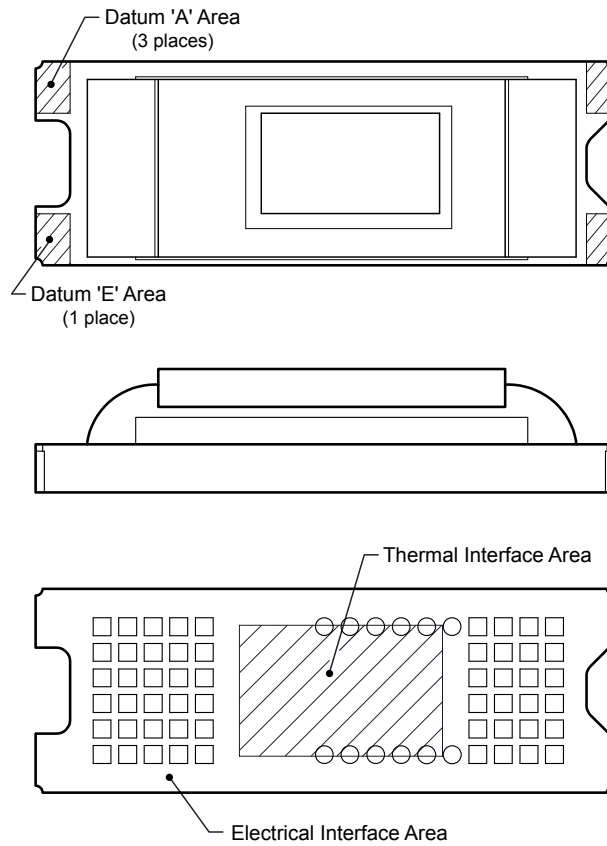

Figure 7-14. System Interface Loads
(1) Uniformly distributed within area shown in Figure 7-14.